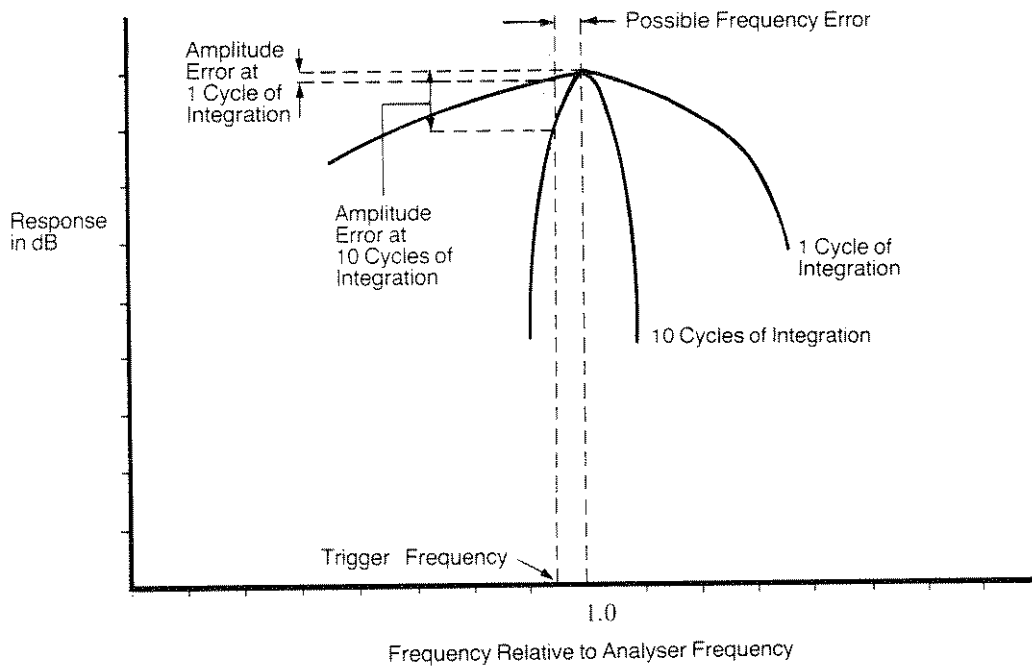

**Fig. 15.1 Use of RATIO Mode for Indirect Synchronising**
- b. Where no direct connection to the desired trigger signal source is possible. An example of this is shown in fig. 15.1, where the rotational speed of the main shaft can only be measured indirectly via a tachometer connected to a geared secondary shaft.